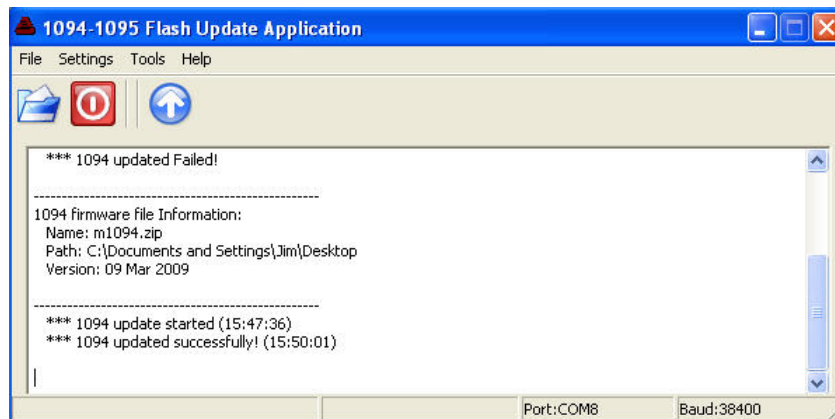

Figure 6.15: Successful Upload of New Firmware
6. Click the blue **UP** arrow to load the firmware into the Model 1094B. Figure 6.15 indicates what you should see after a successful uploading session. During the upload process, the program will show a progress bar that indicates erasing flash and then uploading the new firmware. The process time will vary due to the set baud rate and file size.